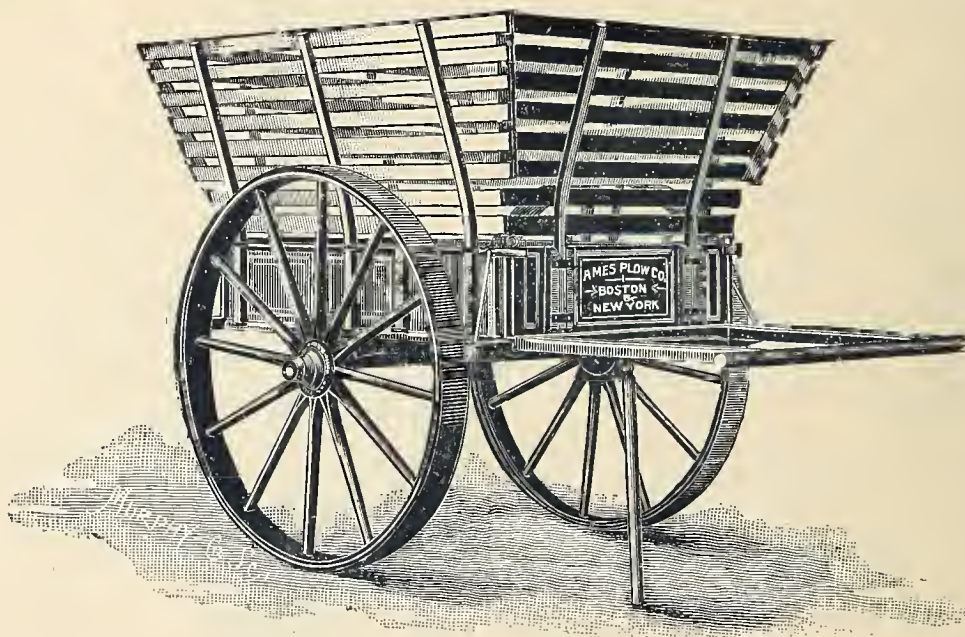

Fig. B 537.—Lawn Hand-Cart.
*The Lawn Hand-Cart*, illustrated at *Fig. B 537*, is made with large, flaring side and end racks and with wide tires, especially for the purpose designated. We manufacture two sizes.